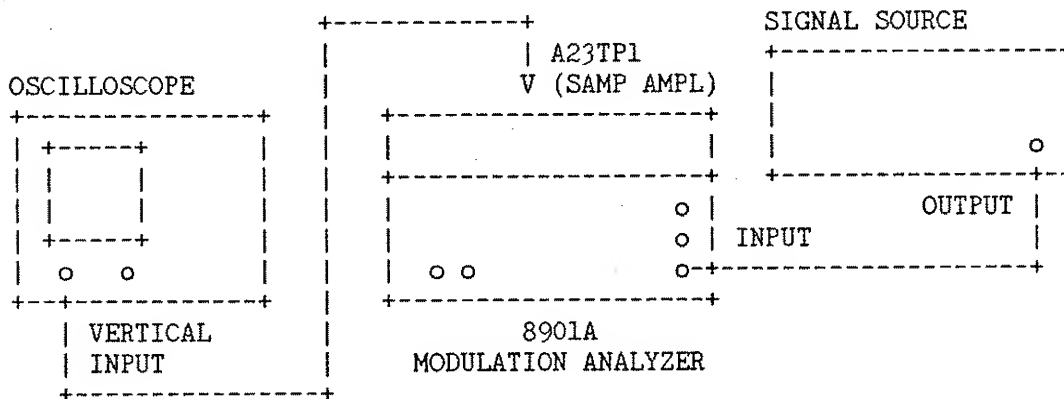

Figure 5-2. Sampler Efficiency and Offset Adjustment Test Setup
2. Connect the equipment as shown in Figure 5-2. (The oscilloscope input should be ac coupled. The signal source can be connected either to a sensor module or directly to the Modulation Analyzer's INPUT.)